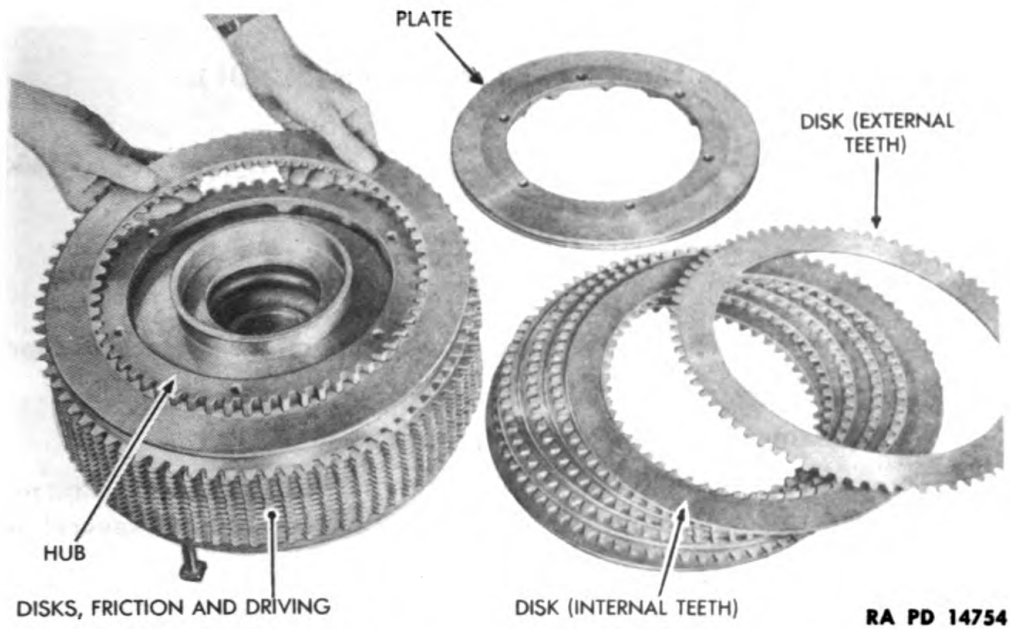

Figure 102 – Friction and Driving Disks Removal
(11) REMOVE FRICTION AND DRIVING DISKS (fig. 102).